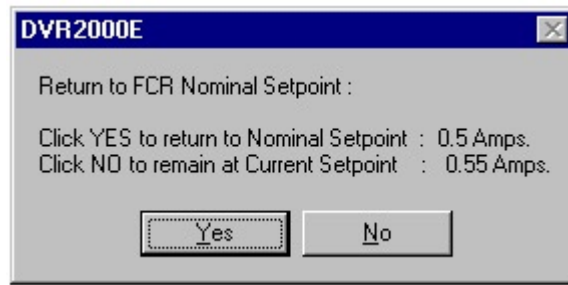

Figure 5-16. Message Box to Return to FCR Nominal Setpoint
*Field Current Step Response - Increment of FCR Setpoint (A).* These two fields indicate the increase that occurs to the FCR setpoint when the corresponding Increment button is clicked. The “% increase” field is used to set and indicate the percentage that the FCR setpoint is increased when the Increment button is clicked. The “FCR Setpoint =” field indicates the value of current that corresponds to the “% increase” field. Any setpoint value within range and higher than setpoint value can also be typed into The “FCR Setpoint =” field which updates the “% increase” field also. The FCR setpoint changes to this value when the adjacent button is clicked. When clicked, the Increment button changes from gray to red to indicate that the FCR setpoint has increased to the value in the “FCR Setpoint =” field.
*Field Current Step Response - Decrement of FCR Setpoint (A).* These two fields indicate the change that will occur to the FCR setpoint when the corresponding Decrement button is clicked. The “% decrease” field is used to set and indicate the percentage that the FCR setpoint is decreased when the decrement button is clicked. The “FCR Setpoint =” indicates the value of current that corresponds to the “% decrease” field. Any setpoint value within range and lower than setpoint value can also be typed into The “FCR Setpoint =” field which updates the “% decrease” field also. The FCR setpoint changes to this value when the adjacent button is clicked. When clicked, the Decrement button changes from gray to red to indicate that the FCR setpoint has decreased to the value in the “FCR Setpoint =” field.
The setpoint value currently set in the unit by any of the above methods is displayed in the current setpoint textbox. To return to the nominal setting the button adjacent to FCR Setpoint (I) (Nominal) should be pressed. If the FCR analysis screen is left without returning to nominal setpoint a message box is shown (Figure 5-16) which allows the user to return to nominal setpoint by pressing YES or remain at the current setpoint by pressing NO.